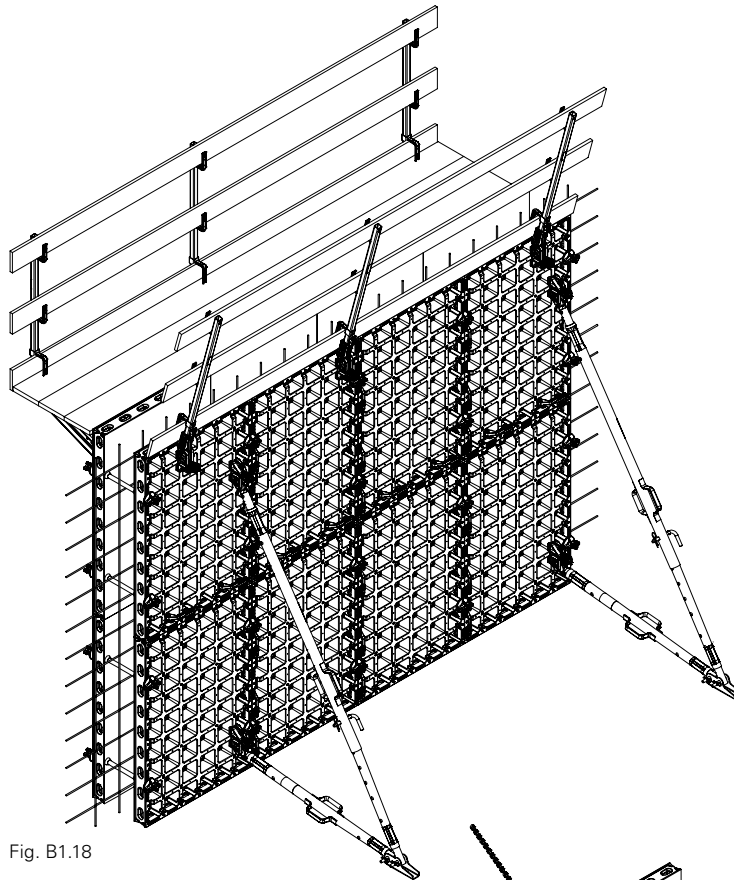

Fig. B1.18
2. Suspend the primary formwork from a crane and transport it to place of operation. (Fig. B1.18)
2. Place the closing formwork, which is suspended from the crane, in front of the primary formwork. (Fig. B1.18)